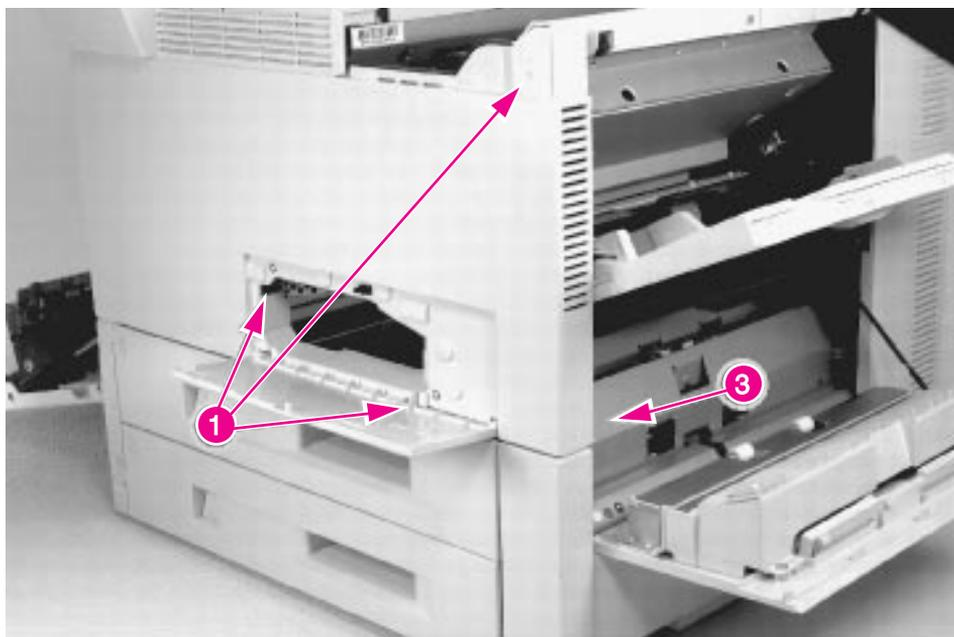

Figure 6-6 Front Cover (1 of 2)
- 2 Open the front access door, and remove 3 screws (figure 6-6, callout 1).
- 4 Carefully pull the bottom of the cover away from the chassis while moving it to the right to release the retaining tab (figure 6-6, callout 3).
- Front Cover (see figure 6-6 on page 163)